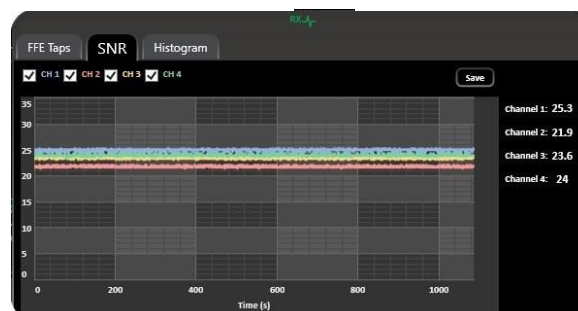

Figure 31: Rx diagnostics SNR with all channels
- You also have the option to view all the channels at once for selected measurements (Figure 31).